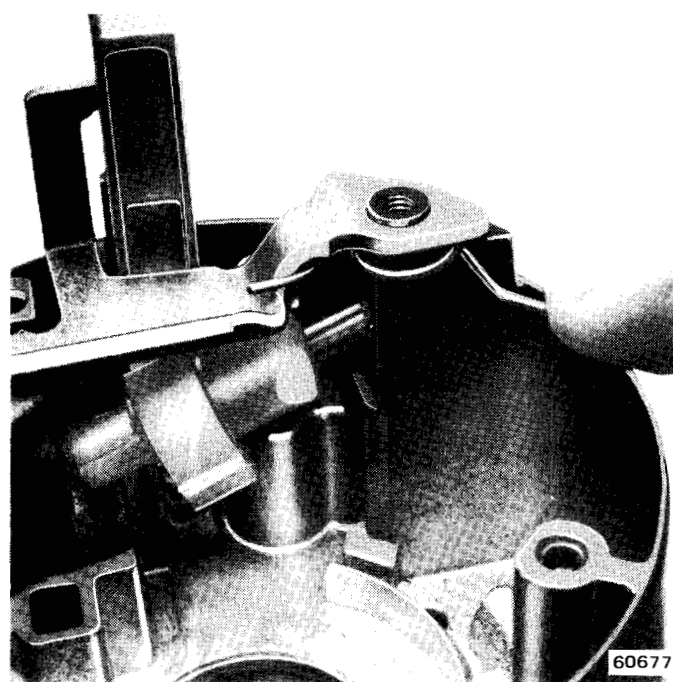

Fig. 11-23 Securing Release Lever Spring
- (6) Raise release lever slightly and install end of release lever spring between lever and housing boss (fig. 11-23).